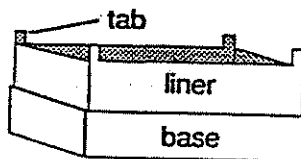

Figure 4
4. Cut along this line, leaving the four tabs as shown in Figure 4.